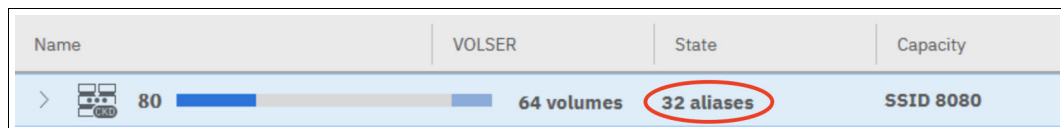

Figure 9-80 Thirty-two aliases are created for LSS 80
4. Click **Create**. The aliases are created for LSS 80, as shown in Figure 9-80.